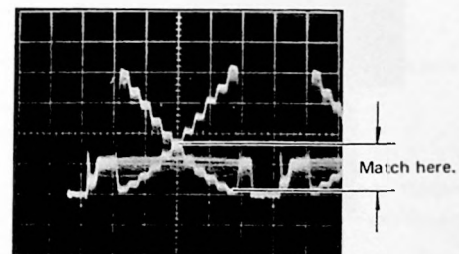

Fig. 4-4-36
- Connect the oscilloscope to TP212 (B) and TP214 (Y_L).
- Overlay the B signal and the Y_L signal on the oscilloscope, and confirm that the signal level between the black chip (zero step) and fifth step (crossing step) of the gray scale waveforms match. If not, adjust Rc/Bc GAIN VR216 to match them. (Fig. 4-4-36)